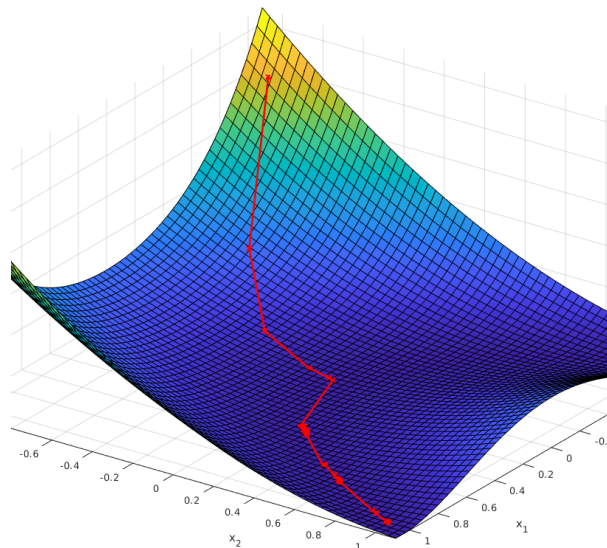

Figure 1.1: Illustration of a line search solution.
- (i) Graphically illustrate the successive iterations (after the line search finished) using `plot3`, `ezsurf`, `hold`, and `grid` (see Matlab documentation and examples) so that you get something similar to fig. 1.1.